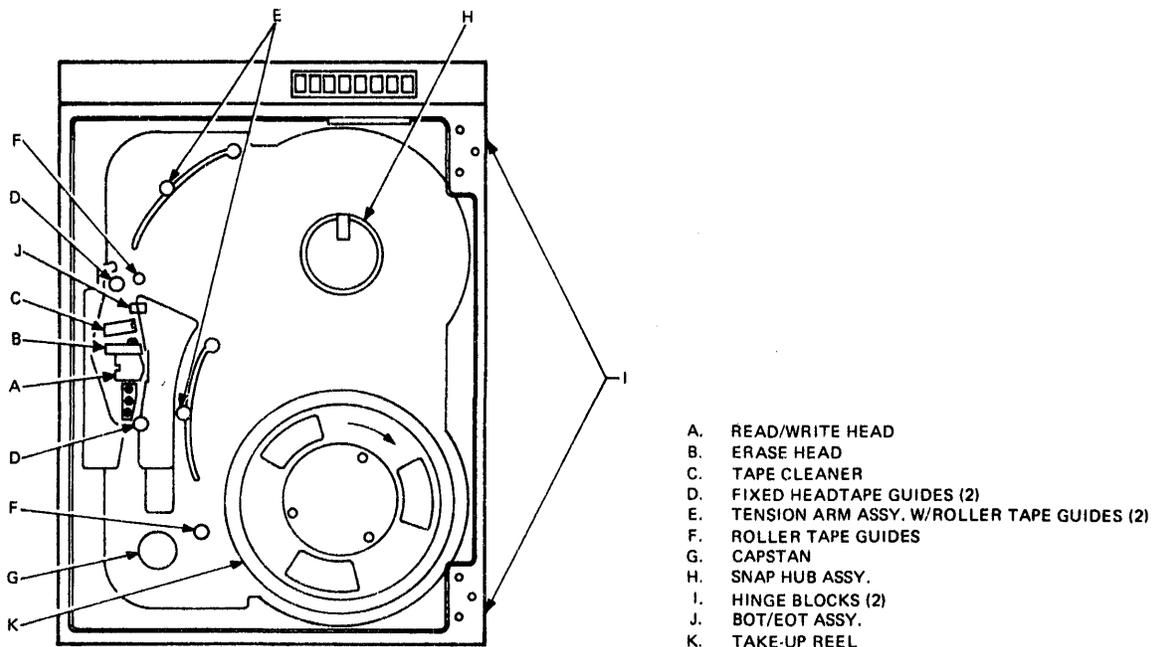

Figure 3-1 Transport Components to Clean
2. Clean the following components of the transport, using a foam-tipped swab soaked in cleaning fluid (Figure 3-1).